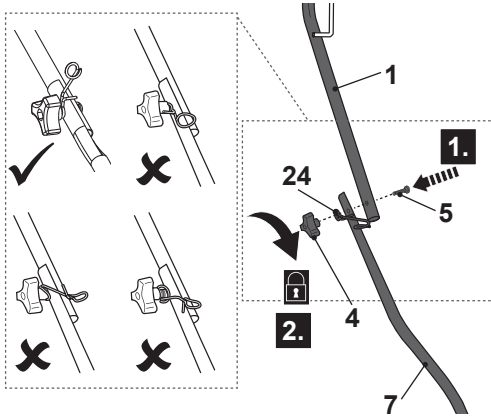

Fig. 2
1. Hold the upper handle bar (1) with the brake lever (2) facing upwards. Align the mounting holes of the upper handle bar (1) and the lower handle bars (7).
2. Pass the mounting bolt through the mounting holes to the end (Fig. 2, step 1).
3. Place the hook for recoil starter handle (24) with its pin positioned on the upper side of the upper handle bar (1) and secure it by turning the mounting knob (4) through the thread of the mounting bolt (5) (Fig. 2, step 2).